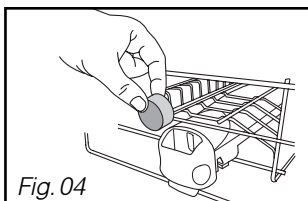
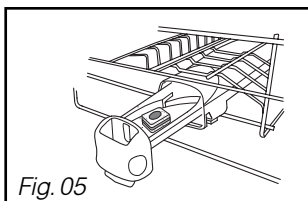

Fig. 04
Fig. 05
Non-multipurpose tablets should be placed in the external compartment (Fig 04) or, for optimum performance, pull out the dispenser drawer and lay the tablet inside (Fig 05).
• **Place the tablet** in the external compartment (Fig 04 on previous page) or, for optimum results, pull out the distributor’s drawer and lay the tablet inside (Fig 05 on previous page).